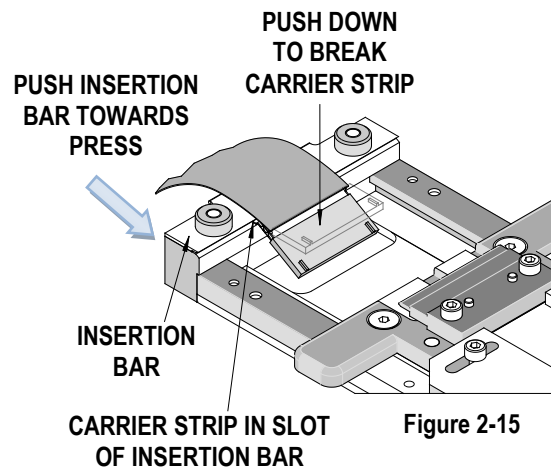

Figure 2-15
12. Push down on the connector to break the carrier strip off. The cable will spring the connector back up. See Figure 2-15.